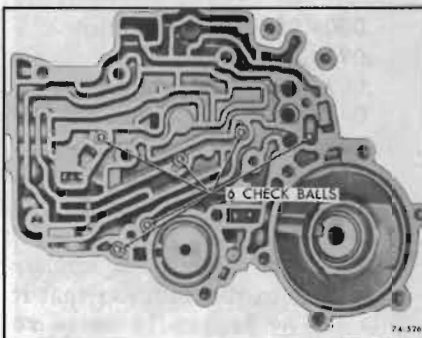

Figure 74-772
6. Install six (6) check balls into transmission case pockets. See Figure 74-772.